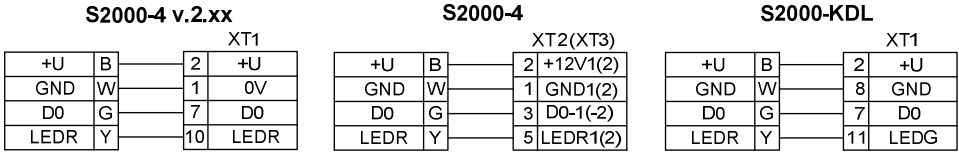

Figure 2
2.2.1 Figure 2 shows examples of connecting the readers to control and indicating units and access controllers manufactured by the Bolid Company.